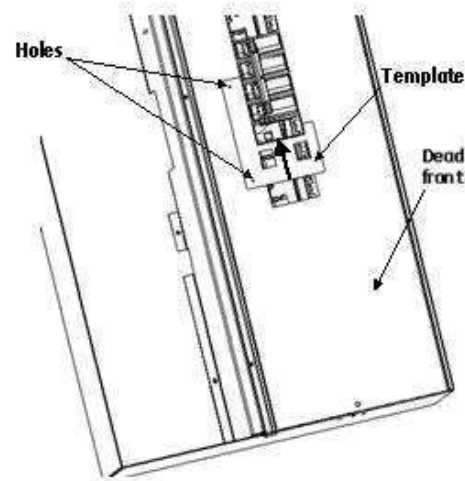

Figure 1: Mounting Hole Template
2. Insert the folds of the template in the knockouts mentioned above and slide towards the 4-pole main breaker outer surface until it ceases to slide further (see Figure 1).
4. Install the retainer and secure using the nuts provided in the kit (see Figure 1). Tighten to 35 lbs-in (4 N-m).